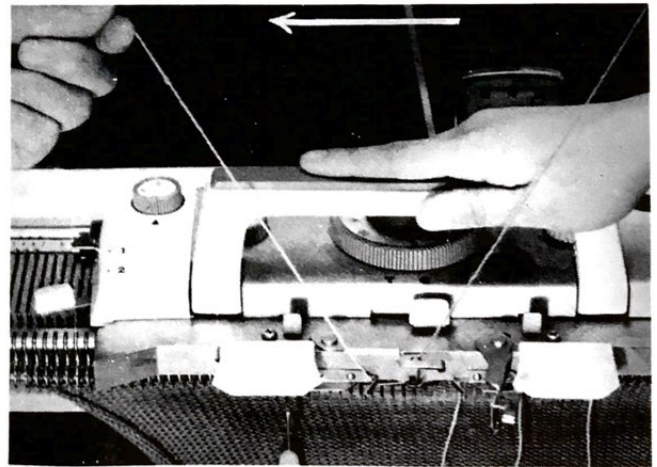

Fig. 45
**1st row** Thread the main colour wool into one of the Main Feeders. With the left hand guide the fine contrasting colour yarn through the leading Subsidiary Feeder (left hand), and move carriage from right to left. (Fig. 45)
2. Never thread the wool through Overhead Yarn Feeder when knitting with Subsidiary Feeder, but always control and guide it with your left hand. (see Fig. 45)